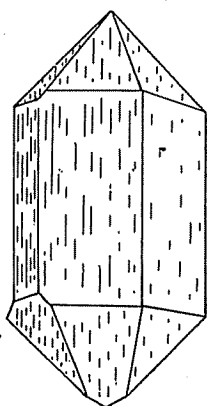
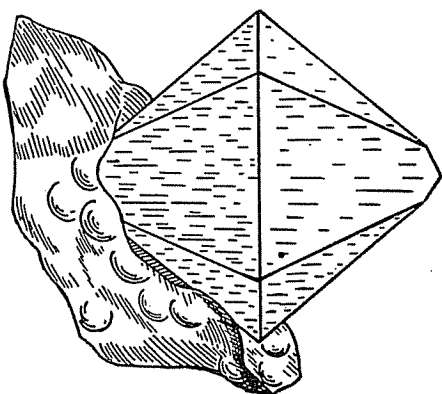

Fig. 38
Fig. 39
**Crystal System**—Usually in the form of hexagonal prismatic crystals terminated by hexagonal pyramids. (Fig. 38). Sometimes the prism faces are missing, as in the form consisting of a doubly terminated hexagonal pyramid (Fig. 39).